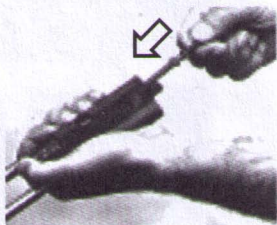

Fig. 34
- Press the bolt down into the bolt carrier until the control bolt is visible in the cam slot (Fig.34).